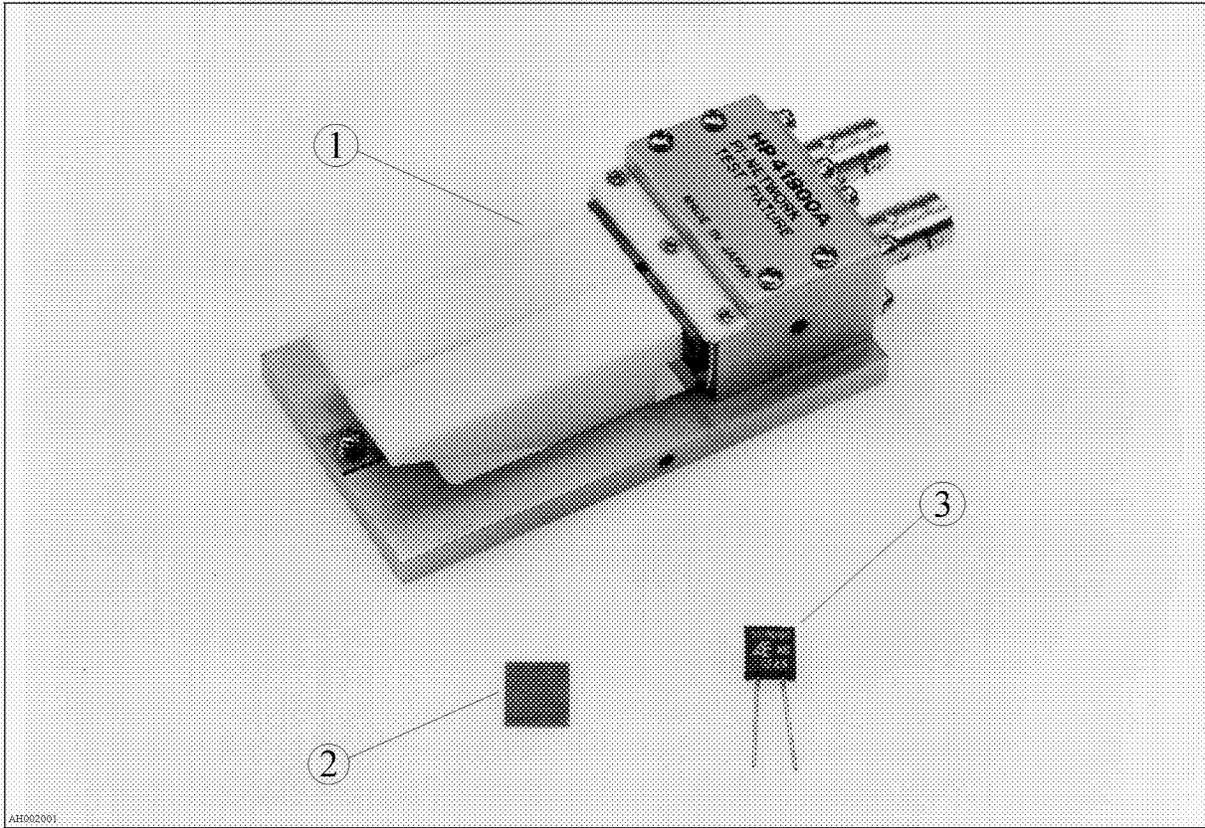

Figure 2-1. 41900A PI-Network Test Fixture Product Overview
2. Verify that the shipping container contains everything shown in Figure 2-1 and listed in Table 2-1. If the 41900A is ordered with Option 001 (Load Capacitor Adapter Kit), it should also contain the parts listed in Table 2-2.